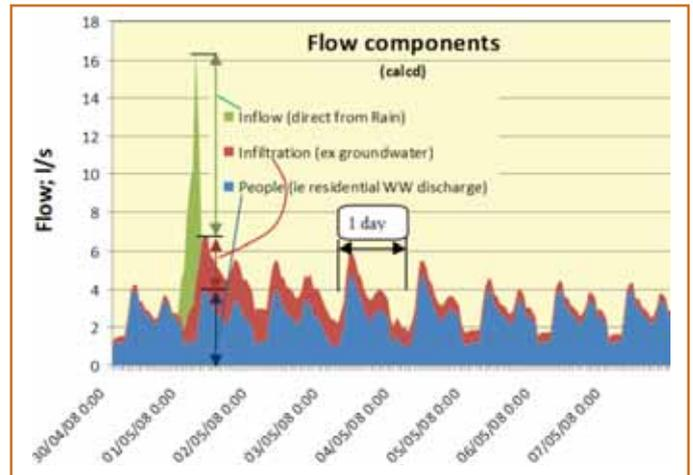
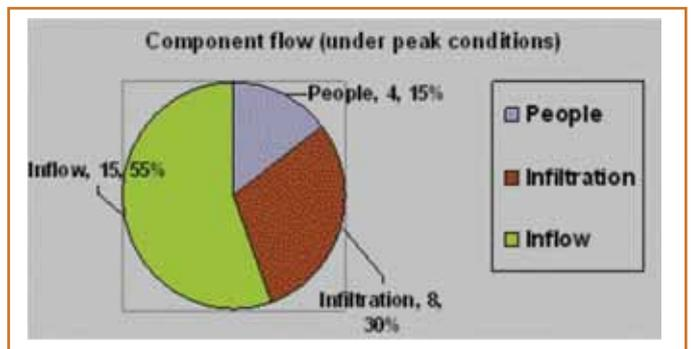

Figure 1 – Flow Components
Figure 2 – Component flow under peak condition
Earlier research [Reference (3)] showed RDII to be dominant. Figure 1 shows a typical time sequence during a rain event while Figure 2 shows the relative components of the peak flow.